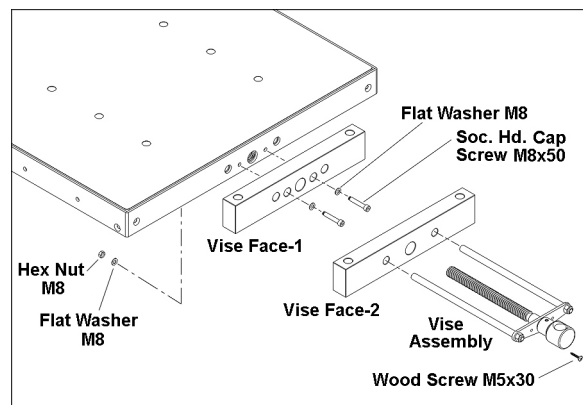

Figure 7
2. With table still lying flat, mount the *vise face-1* to the steel frame. The top surface of *vise face-1* should be flush with the top surface of the workbench. Secure *vise face-1* with two *M8x50 socket head cap screws*, four *M8 flat washers*, and two *M8 hex nuts*, as shown in Figure 7.
4. Make sure *vise face-1* and *vise face-2* are flush at the top surfaces, then insert two *M5x30 wood screws*. See Figures 7 and 8. Continue holding the vise faces flush while tightening the wood screws.